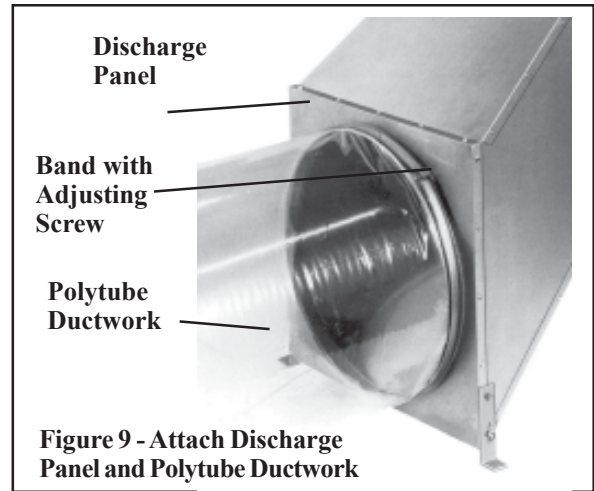

Figure 9 - Attach Discharge Panel and Polytube Ductwork
7. Install Polytube (See Figure 9)